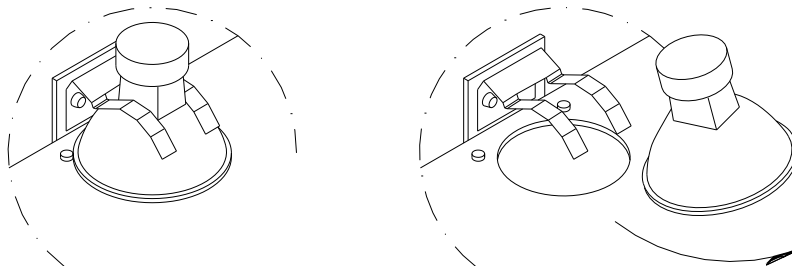

Figure 18 – Sliding out the Lamp
- slide out the lamp from its seat as shown in Figure 18